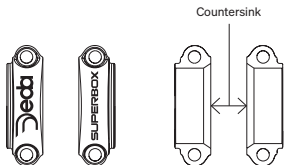

Fig. 5.3.1
- 1 • First check that the stem faceplate have a countersink inside. (Fig. 5.3.1)